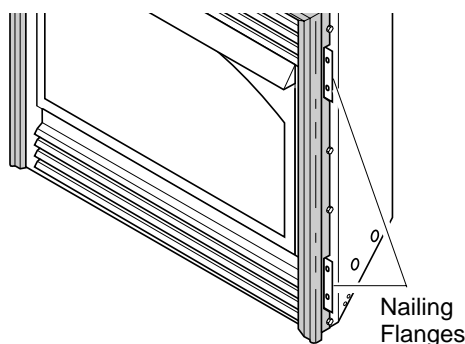

Figure 11 - Location of Nailing Flanges
- Break off nailing flanges (see Figure 11) with hammer or pliers.